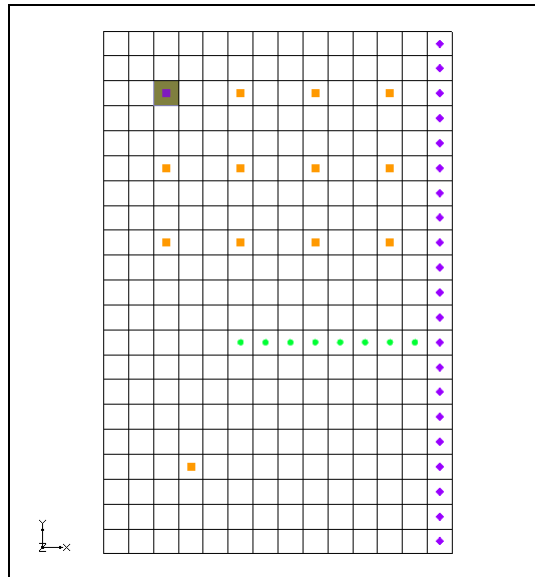

Figure 3 Selected MNW well cell
1. If necessary, re-select the grid cell shown in Figure 3, the one containing the top-left well (in Cell ID 31).